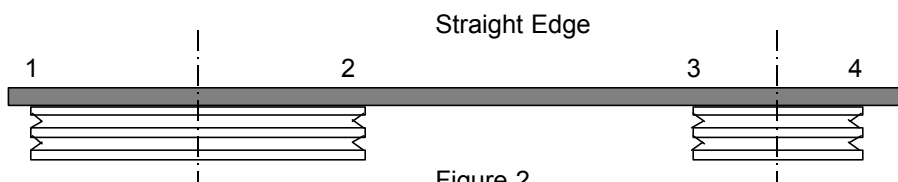

Figure 2
2. Unit TOP (blower sec.) mounts on top of unit bottom, see FIG. 2 for details. Mount so that discharge opening faces building. Blower and electrical access doors are on the same end. Coil access may be either end.